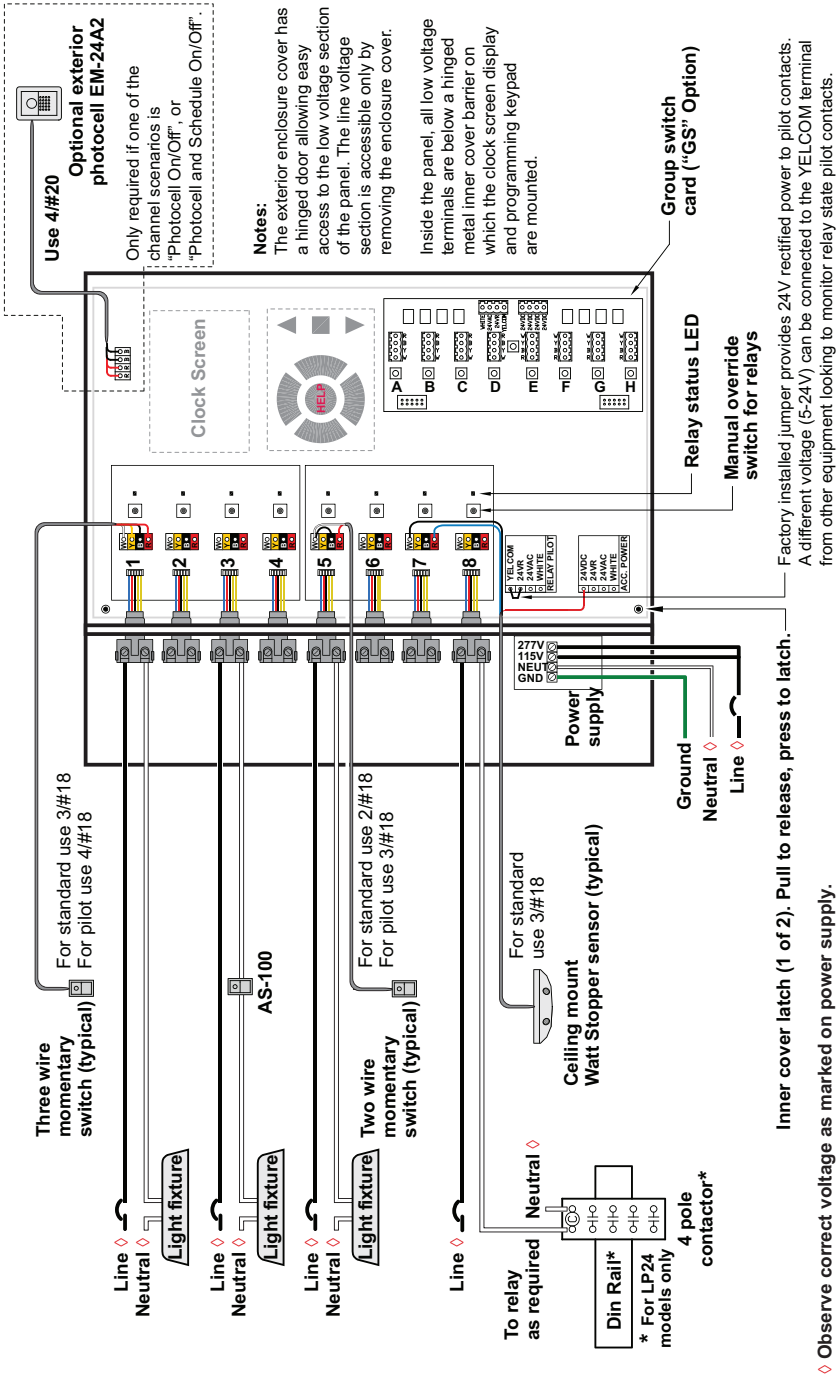

Figure 2: System Wiring Overview
4. Determine the appropriate wire entry locations. Make sure that all line and low voltage wiring entry locations are confined to the appropriate compartments as shown in Figure 2 or 2a as appropriate.